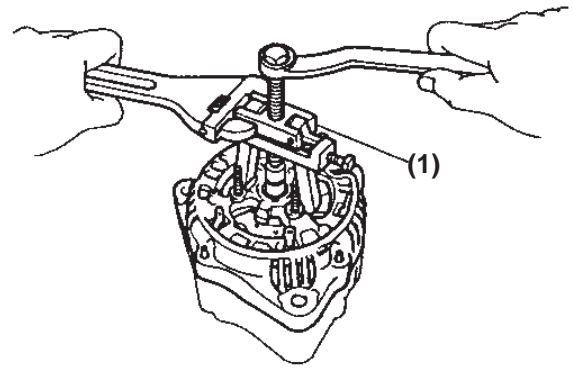

Figure 11-16
11. Using a special two-jaw puller tool (**Figure 11-16, (1)**), remove rectifier end frame.